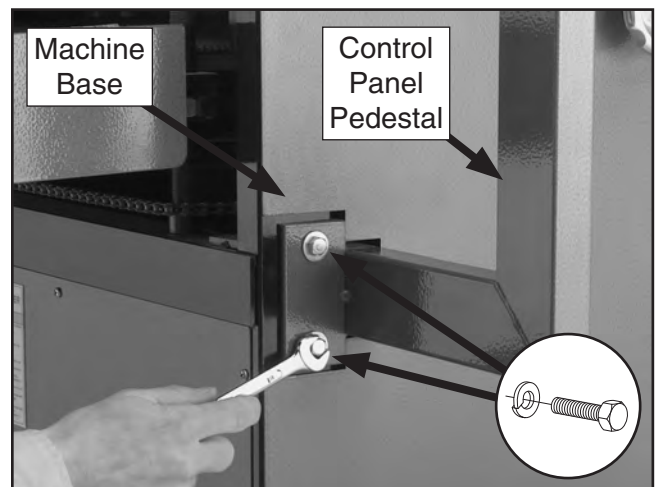

Figure 15. Attaching control panel to machine base.
4. **G1066Z Only:** Attach control panel pedestal to right side of machine with (2) 5/16"-18 x 1" hex bolts and (2) 5/16" flat washers, as shown in **Figure 15**.